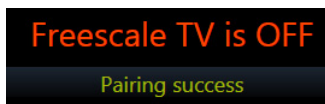

Figure 10. Pairing Success Status
16. When the pairing is established, both the LCD on the 1323x-RCM and the TV GUI will show corresponding status messages. The 1323x-RCM LCD displays the current status of the TV: “FSL TV is off” and the GUI shows the message “Pairing success” as shown in Figure 10,